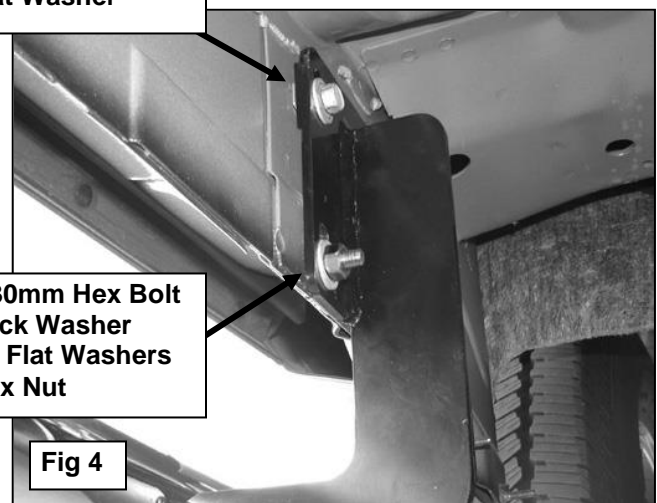

**Fig 2**
- OPTION:** The front Bracket installs with (3) Hex Bolts. If desired, a 4th mounting hole can be drilled through the body panel **(Figure 2).** Use the Bracket as a template to determine the location to drill. Drill 3/8" if desired. Extra hardware has been provided.